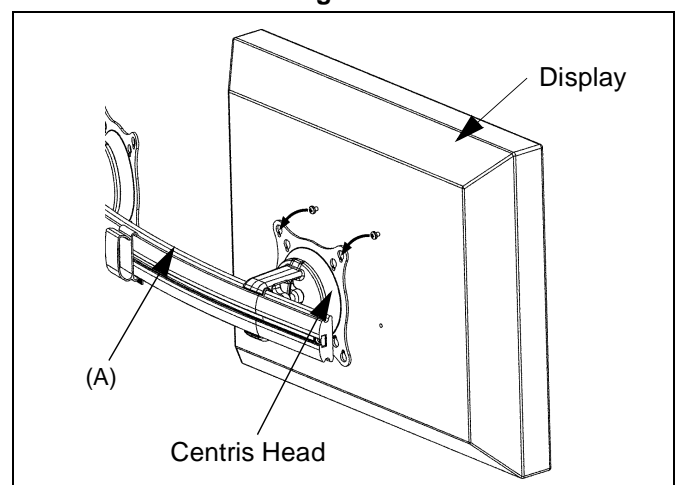
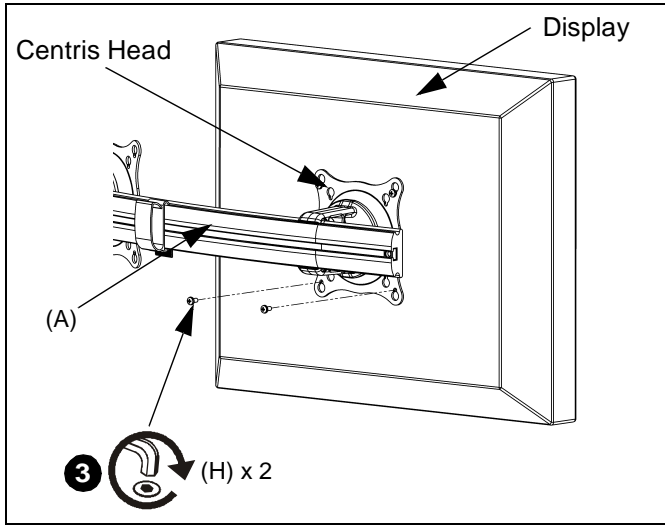

Figure 4
Figure 5
2. Hang display on Centris head. (See Figure 4)
3. Install bottom two M4 x 12mm Phillips pan head screws (H) through Centris head mounting holes and into lower mounting holes in display back.
4. Tighten ALL four M4 x 12mm Phillips pan head screws (H). (See Figure 5)